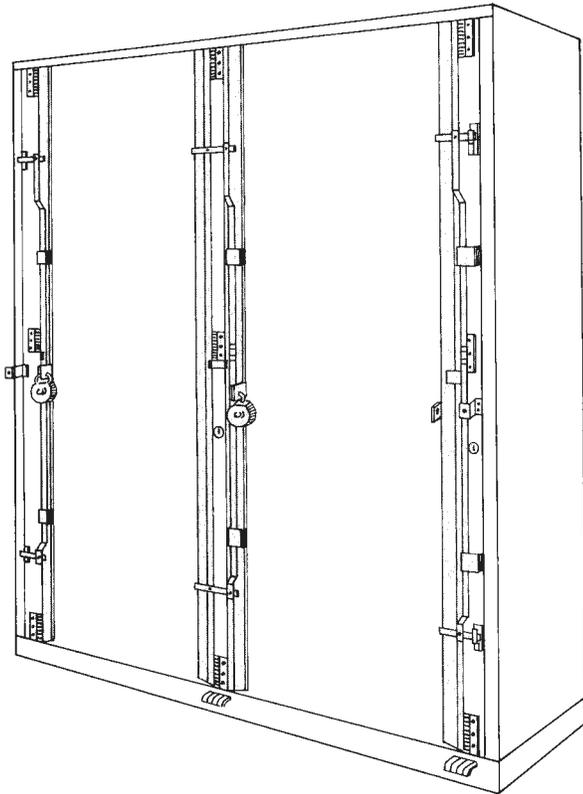

Figure 27
STEP 20 - ASTRAGALS (Figure 27)